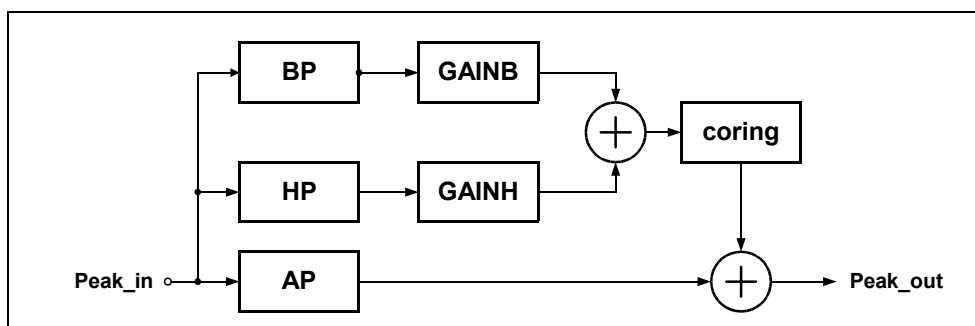

Figure 5-34 Block diagram peaking
The luminance peaking filter improves the overall frequency response of the luminance channel. It consists of two filters working in parallel. They have high pass (HP) and band pass (BP) characteristics. Their gain factors are programmable separately (**BCOF**, **HCOF**). Values greater than 4 peak the signal, whereas values less than 4 attenuate the signal. The high pass and the band pass filters are equipped with a common coring algorithm. It is optimized to achieve a smooth display of grey scales, not to improve the signal-to-noise ratio. Therefore no artifacts are produced. Coring can be switched off (**YCOR**). The Figure 5-34 shows the block diagram of the peaking block.